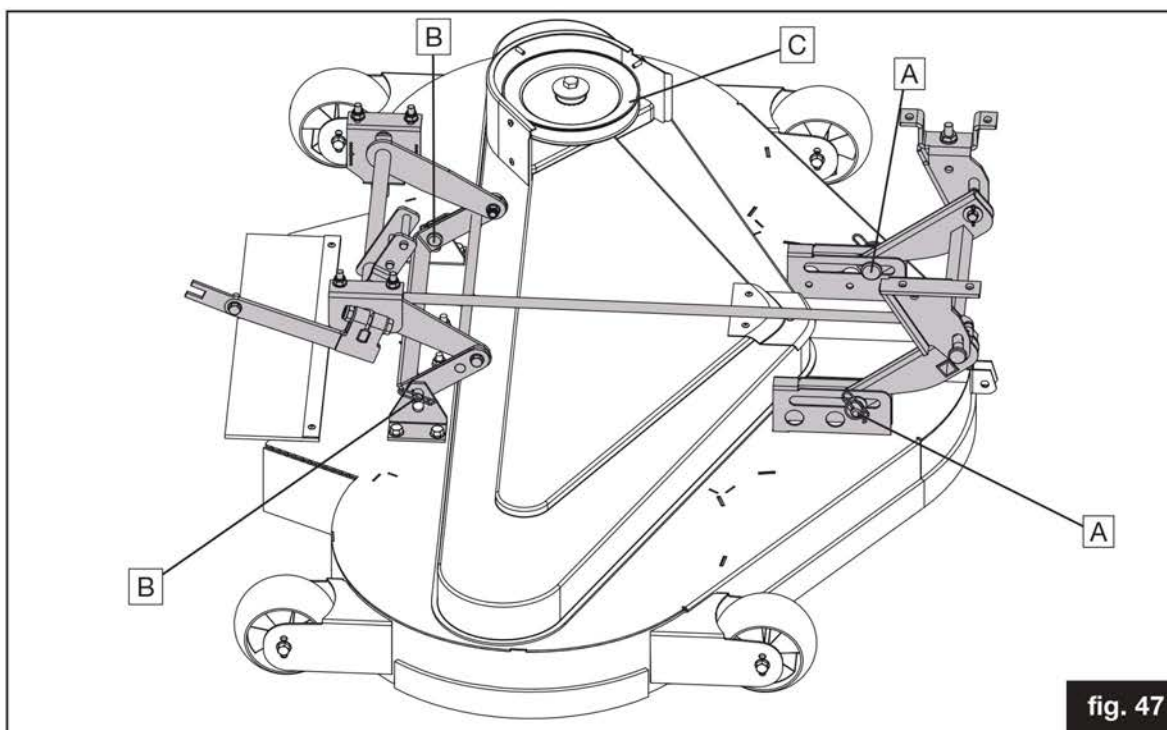
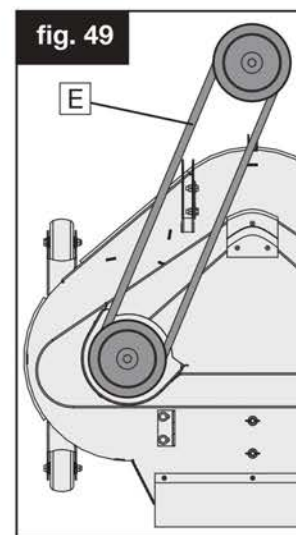
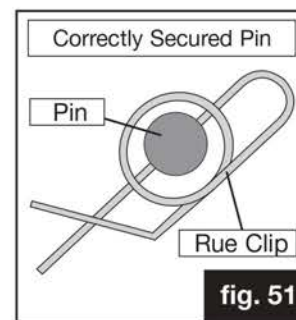

fig. 47
fig. 49
fig. 51
Removal of cutter deck (fig. 47, 48, 49, 50 & 51)
3. Remove the belt (fig. 49 - belt E) from the pulley (fig. 47 - pulley marked C).
4. Remove the 2 securing pins from the front of the deck (fig. 47 - pins marked A) by undoing the Rue Clips (Fig. 51 installed correctly) and removing them.
5. Repeat for the 2 securing pins at the back of the deck (Fig. 47 - pins marked B).
IMPORTANT! DO NOT ATTEMPT TO INSTALL THE DECK TENSION ROD UNLESS RUE CLIPS AND PINS ARE FIRST INSTALLED ON BOTH FRONT AND REAR DECK BRACKETS (fig. 47, 50 & 51).